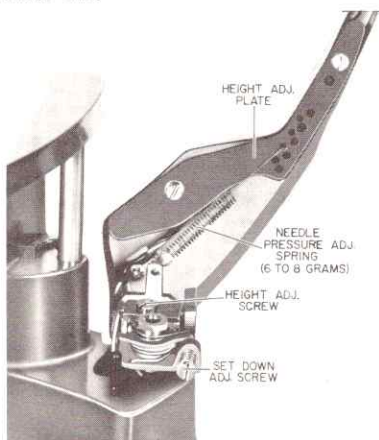

FIGURE 2. TONE ARM ADJUSTMENTS
Needle Pressure — Adjusting of needle pressure may be made by re-positioning the tone arm balance spring (144) in the various adjustment holes provided, See Figure 2, until the correct pressure is obtained. Proper pressure is between 6 and 8 grams.